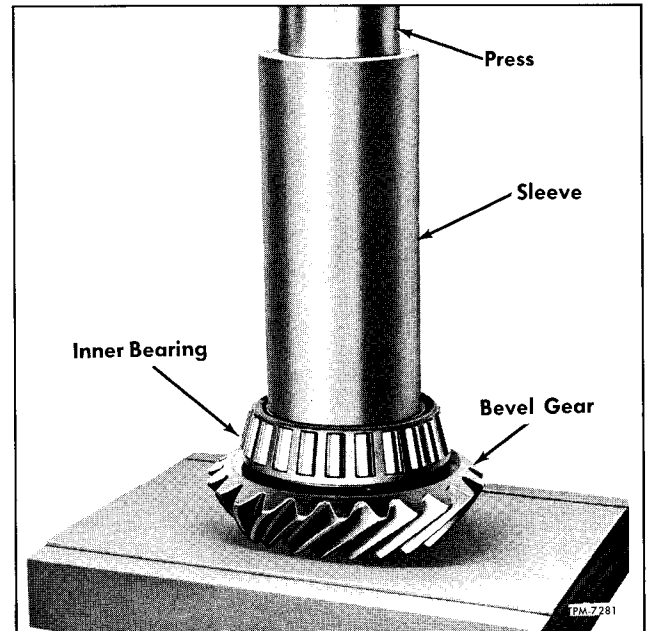
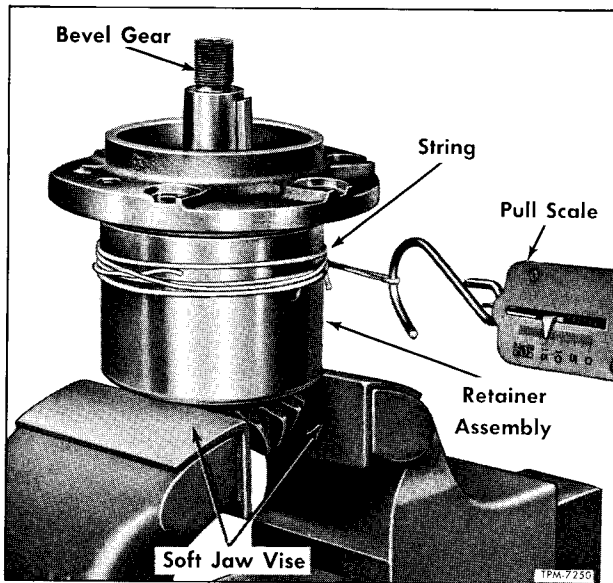

Figure 112—Installing Bevel Gear Inner Bearing
Figure 113—Checking Bevel Gear Adjustment
1. If bevel gear inner bearing cone (12) was removed from bevel gear at disassembly, install inner bearing cone using a suitable sleeve and arbor press. Support bevel gear on soft metal or hardwood block and seat bearing race firmly at shoulder (fig. 112).
2. Install bearing adjustment spacer (10) on shaft of bevel gear.
3. Inspect counterbores in bearing retainer (4) which must be clean.
6. Install outer bearing cone (8), adjustment nut lock (6) and adjustment nut (3). NOTE: Care should be taken to prevent nut lock from turning with adjustment nut.
a. Wrap a heavy cord around bearing retainer and attach a spring scale as shown in figure 113.
b. Use a deep spanner wrench to tighten bearing adjustment nut (3) to 175 to 200 foot-pounds torque. Rotate bearing retainer by pulling on spring scale. correct bearing preload will require a 4-1/2 to 9-1/2 lbs. pull to rotate retainer. If necessary, replace bearing adjustment spacer (10) with another size.